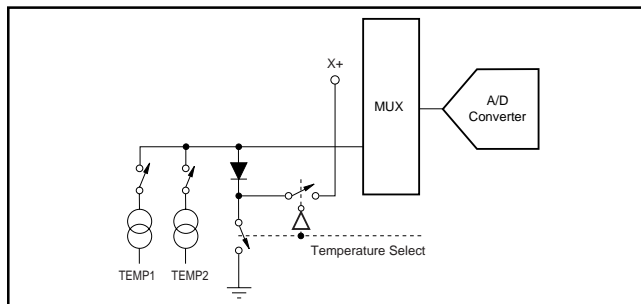
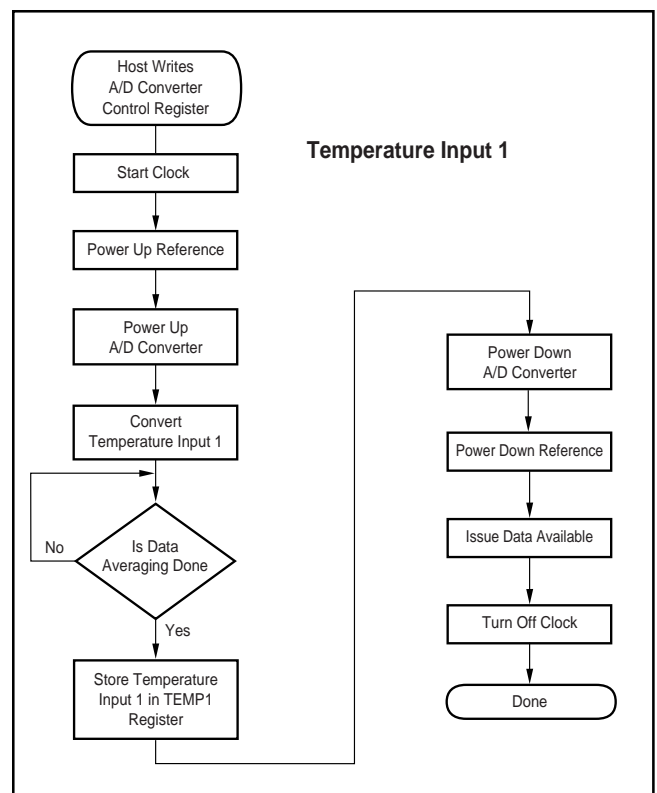

FIGURE 18. Functional Block Diagram of Temperature Measurement Mode.
FIGURE 19. Single Temperature Measurement Mode.
The TSC2000 offers two modes of temperature measurement. The first mode requires calibration at a known temperature, but only requires a single reading to predict the ambient temperature. A diode, as shown in Figure 18, is used during this measurement cycle. This voltage is typically 600mV at +25°C with a 20µA current through it. The absolute value of this diode voltage can vary a few millivolts; the temperature coefficient (TC) of this voltage is very consistent at -2.1mV/°C. During the final test of the end product, the diode voltage would be stored at a known room temperature, in system memory, for calibration purposes by the user. The result is an equivalent temperature measurement resolution of 0.3°C/LSB. This measurement of what is referred to as Temperature 1 is illustrated in Figure 19.